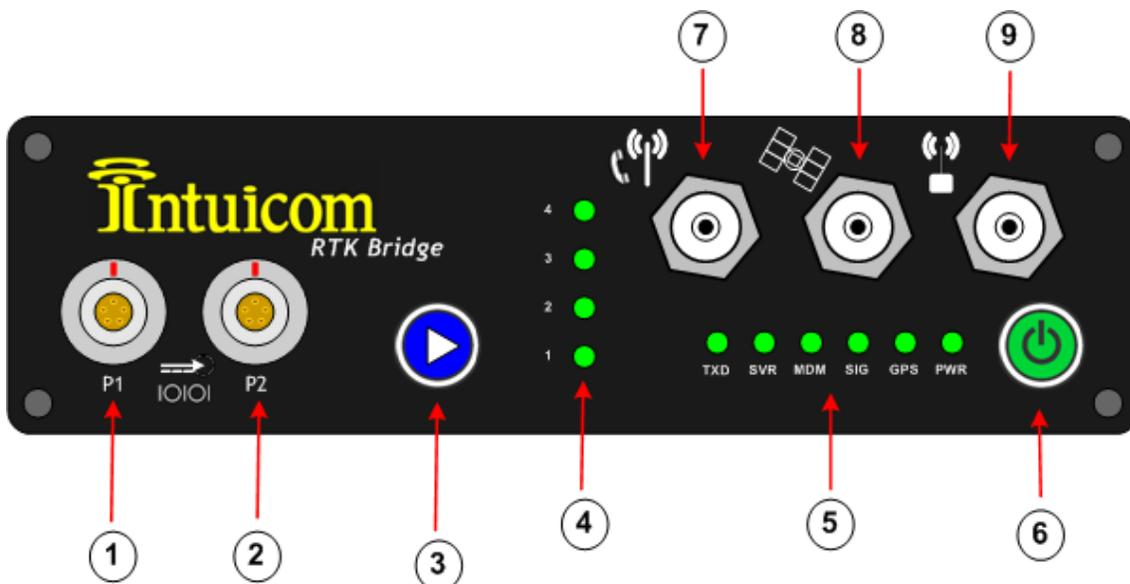

Figure 4: RTK Bridge – C Front Panel
1. Connect the GSM antenna, the GPS antenna and the UHF antenna as shown in Figure 4.